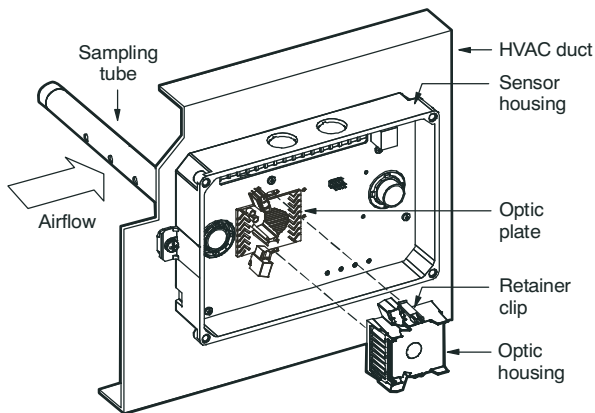

Fig. 12 – Sensor Cleaning Diagram
2. Using a vacuum cleaner, clean compressed air, or a soft bristle brush, remove loose dirt and debris from inside the sensor housing and cover. (See Fig 12.) Use isopropyl alcohol and a lint-free cloth to remove dirt and other contaminants from the gasket on the sensor's cover.